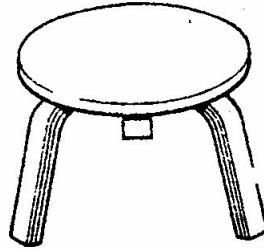

Fig. 1
- 1 Fig. 1 shows a stool with legs made up of thin strips of wood bent to shape.